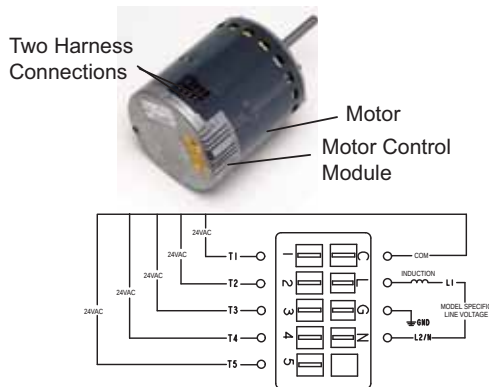

Figure 14.
- 3 - Unplug the two harnesses from the motor control module. See **Figure 14**.